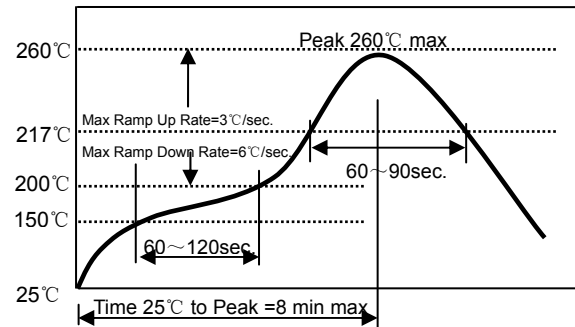

Fig. 11.1-1
- Please refer to **Fig. 11.1-1**.